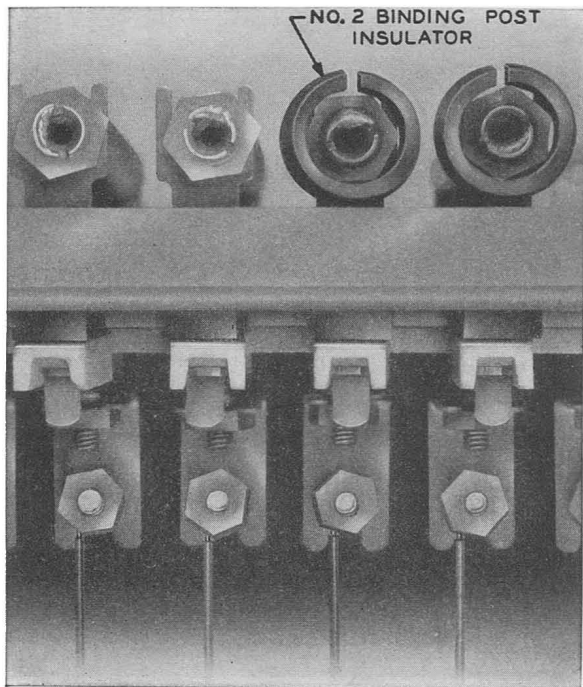

FIG. 14—USE OF NO. 2 BINDING POST INSULATORS
9.07 The No. 2 Binding Post Insulator (Black) is used on binding posts having 7/16-inch nuts or on ends of 7A fuses as shown in Fig. 14.